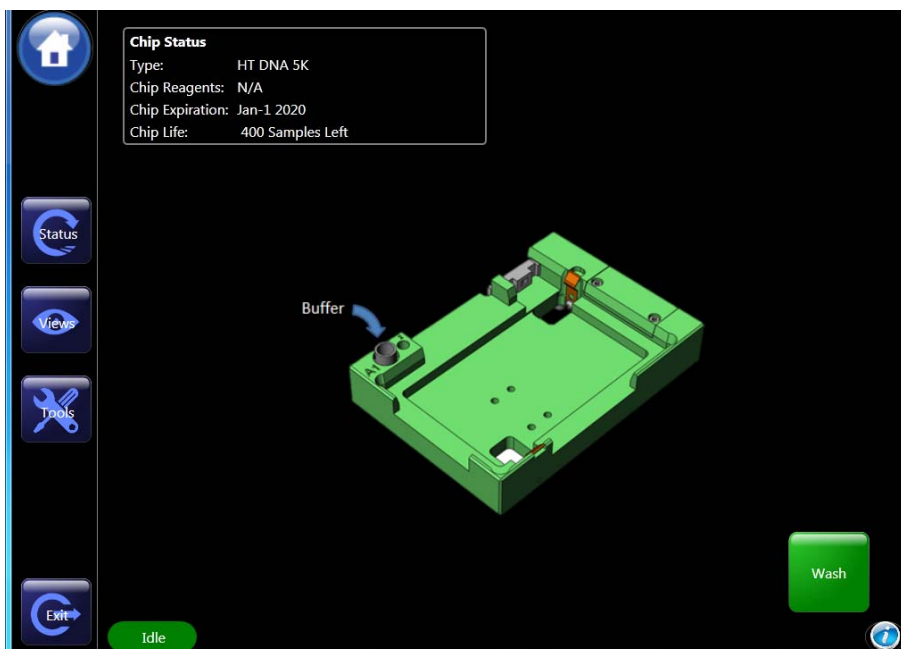

Figure 18. Wash screen.
- Touch the *Wash* button on the *Home* screen (Figure 18).